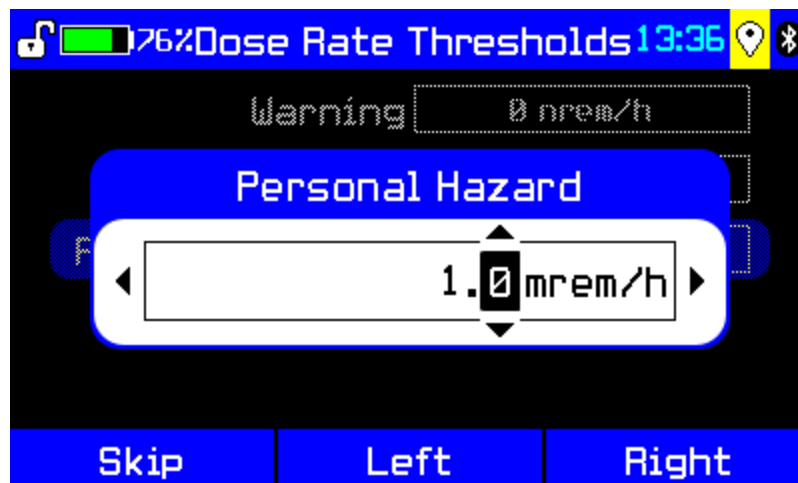

Figure 2-16: Component selected for editing
Many screens, such as the Dose Rate Thresholds screen (Figure 2-16), are *composite values* containing multiple fields, often for digits.
1. Press **M (Left)** or **R (Right)** to select the part of the composite value that you want to edit (Figure 2-16).